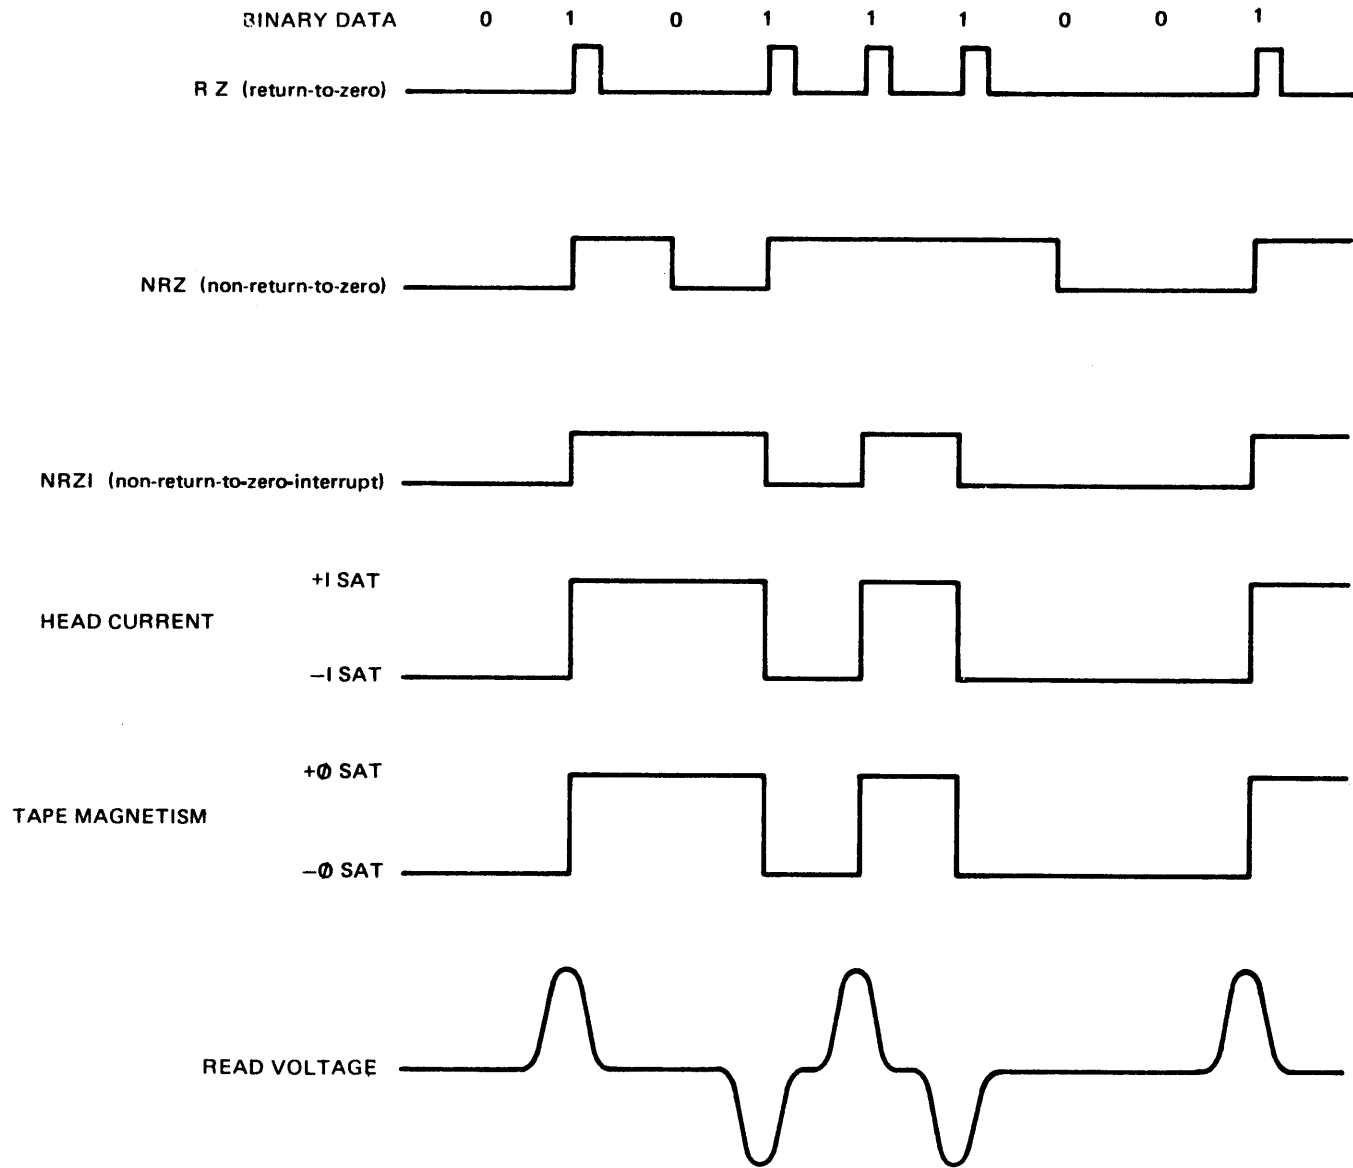
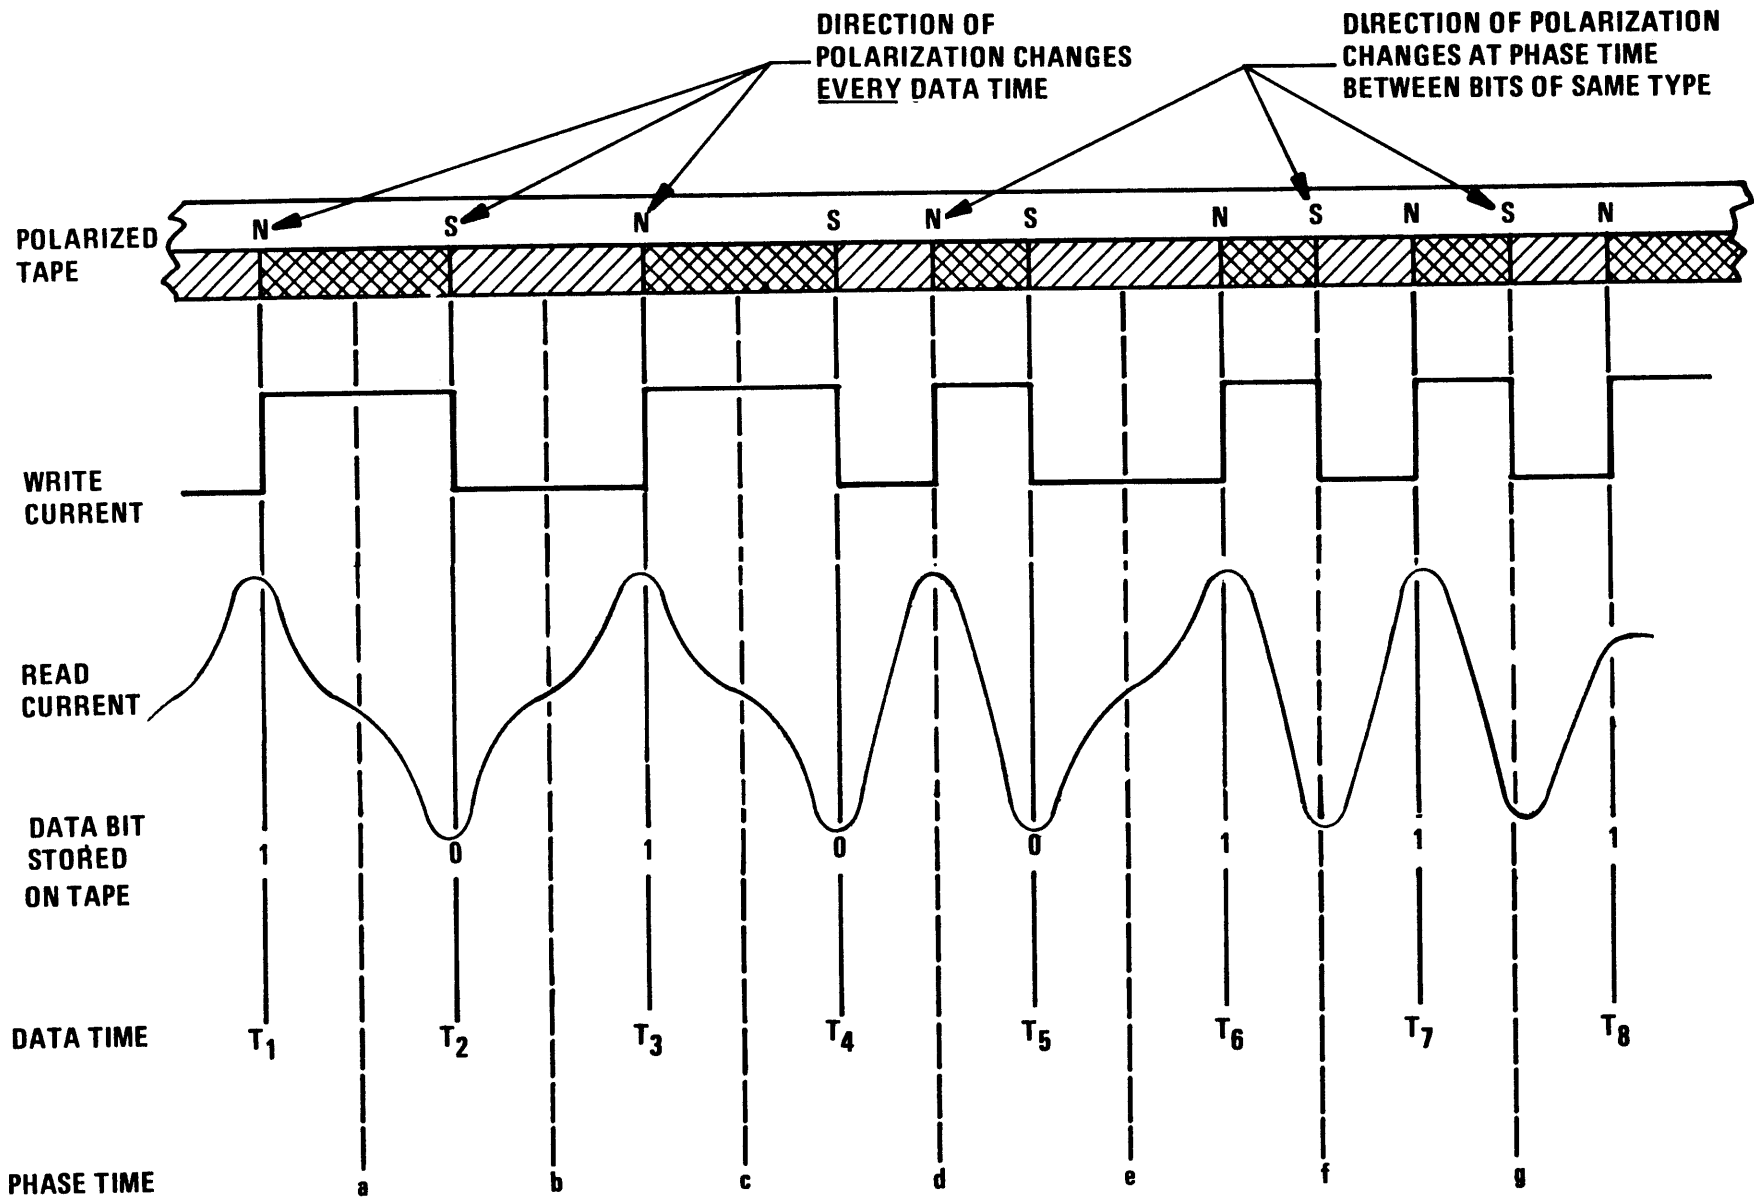

Figure 4-1. Magnetic Recording Waveforms
Figure 4-2. Phase-Encoded Tape Magnetization
4-6. The recording of data on magnetic tape originates with the input device, whose nine channels of digital signals are transmitted to the corresponding data channels of the transport. (One of these channels is the parity channel, which is used to detect and correct errors. The remaining channels correspond to actual encoded data to be recorded.) These signals produce corresponding electrical currents in the write head of the transport, which, in turn, produces positive and negative magnetic polarities corresponding to the original data and parity signals in the tracks of the tape passing over it. In NRZI systems, a binary 1 signal in a given channel produces a transition from plus to minus (or vice versa) saturation magnetism (+SAT and -SAT, Figure 4-1) in its track on the tape, whereas a binary 0 signal produces no change in magnetism in its track. In phase-encode writing, a binary 1 signal produces a transition to the IBC polarity on the tape when running forward (Figure 4-2); a binary 0 produces a transition away from IBC.
4-7. As a written tape passes across the magnetic read head of a transport, the head responds to each change of flux arriving at its gap and produces a read voltage waveform for each track such as illustrated in Figure 4-1 (NRZI) or Figure 4-2 (PE). (See paragraph 4-12 for a detailed description of magnetic tape recording/reading in the NRZI mode, paragraph 4-20 for phase-encode.)
4-21. Phase-encoded (PE) recording offers several advantages over other types, most important of which are the reduced possibility of losing data because of inadequate signal strength (making practical low read thresholds) and the fact that each track is self clocking, reducing skew problems. Operation is in a nine-track mode only. Basic features of the PE system (in forward direction) are as follows (Figure 4-2):